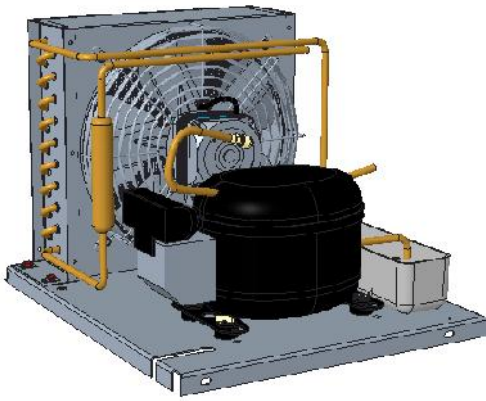

Figure-1
- Since the dust accumulated on the condenser affects the efficient operation of the equipment, remove the dust on or near the condenser with a soft brush or a vacuum cleaner once in every two weeks. (Figure-1)